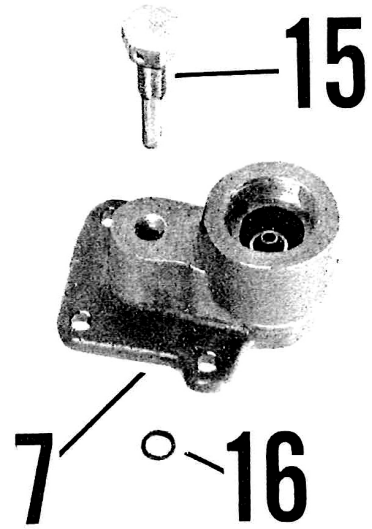

Figure 7-3. Detail Item 7 (Table 7-1)
**Take care not to drop the solenoid plunger (Item 6A) and spring (Item 6C) when the solenoid separates from the valve body. (Reference Figure 7-3).**